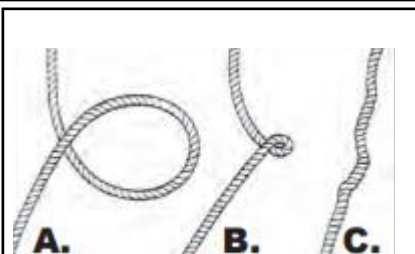

Figure 18
3. Ensure the cable is not kinked, or coiled up as shown in **Figure 18**. Uncoil as necessary or else **damage will occur**.